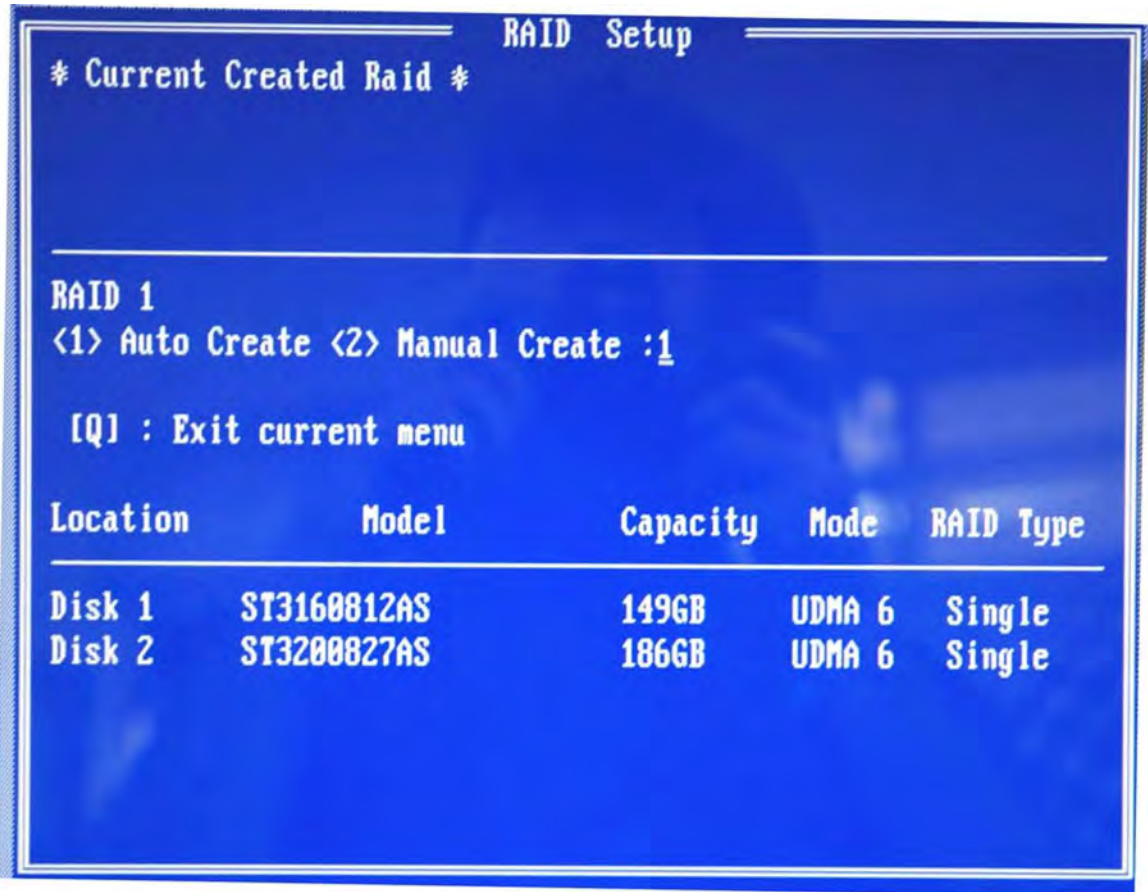

Figure D-8: Select “Auto”
Step 7: You will then be prompted to **Auto Create** or **Manual Create**. Select **Auto Create** (see Figure D-8).